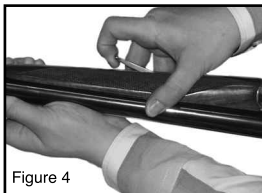

Figure 4
- Remove Barrel assembly from package. Remove the forend from the barrel group by lifting the fore-end latch upward. This will disengage the latch and allow you to lift fore-end away from the barrels. (Figure 4 & 5).